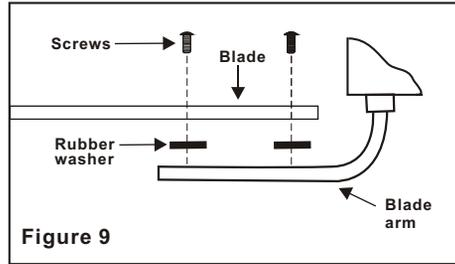

Figure 9
Step 1 Attach blades to blade arms using three screws and rubber washers as shown in Figure 9. Start a screw into the blade arm, do not tighten. Repeat for the 2 remaining screws and washers.